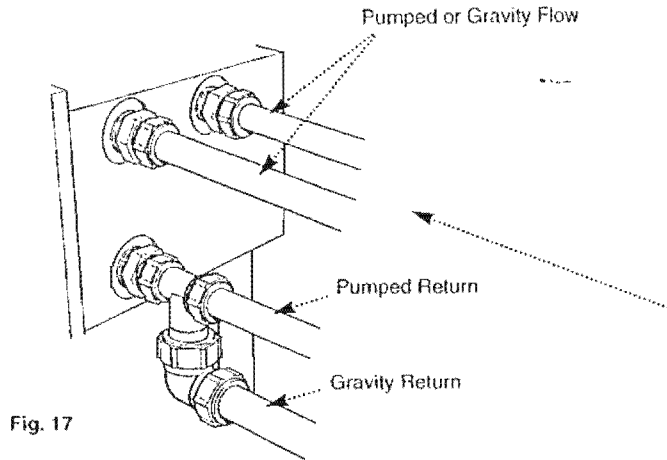

Fig. 17
6.9 Pumped Heating & Gravity Hot Water (Fig. 17)